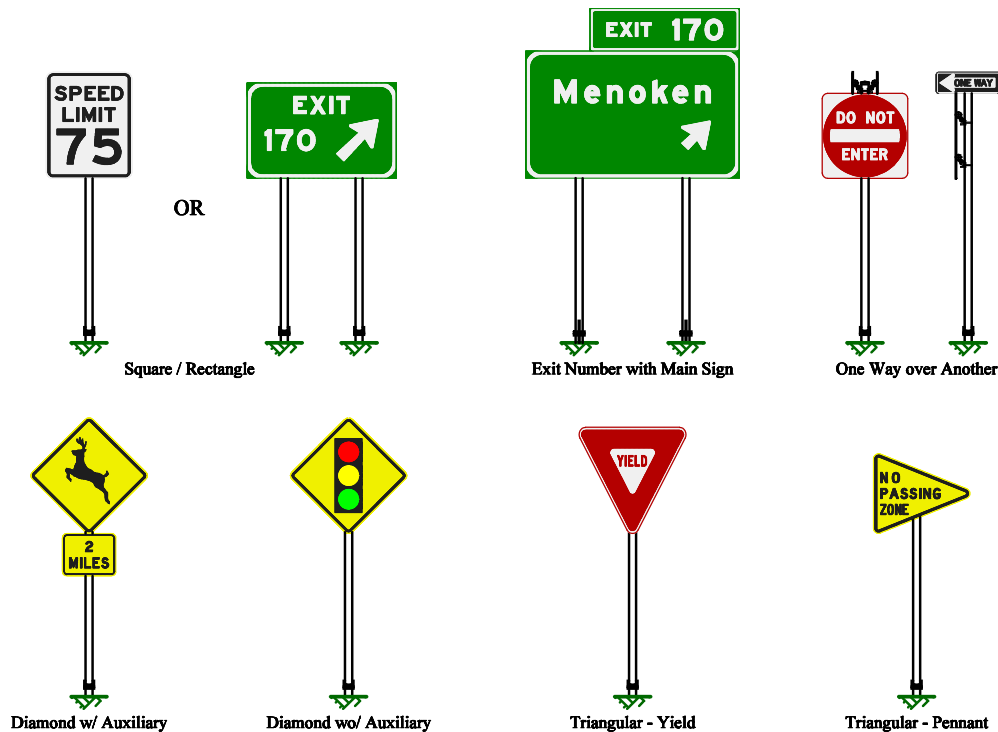

Figure 6 – Sign Types for Pipe/W-Shape Supports
28. **Sign Type:** Choose the type of sign you want to design (see Figure 6.)